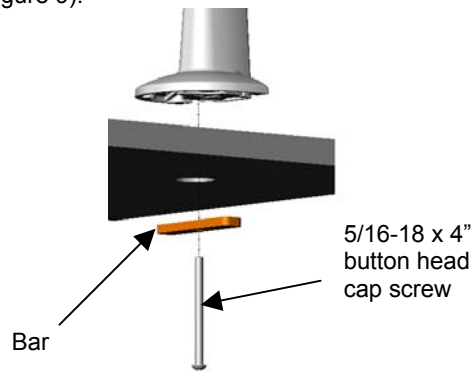

Figure 9. Secure using Bar
5. Secure the bar, with the 5/16-18 x 4" button head cap screw under the work surface, to the tapped center hole of the base bracket in the desk clamp (see Figure 9).